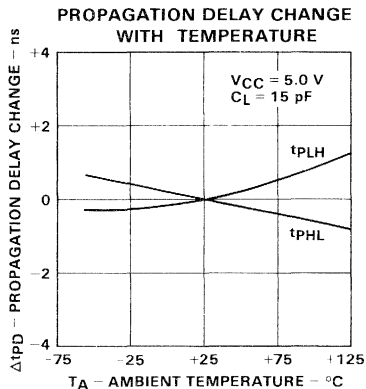

Fig. 8.
0.5 ns with V_{CC} for the military temperature and voltage ranges. (See *Figures 8 and 9*).